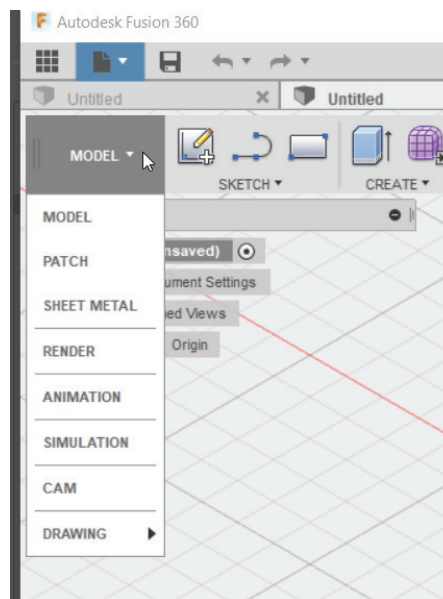

Figure-8. Workspace drop-down
- Select the desired workspace from the **Workspace** drop-down; refer to Figure-8.